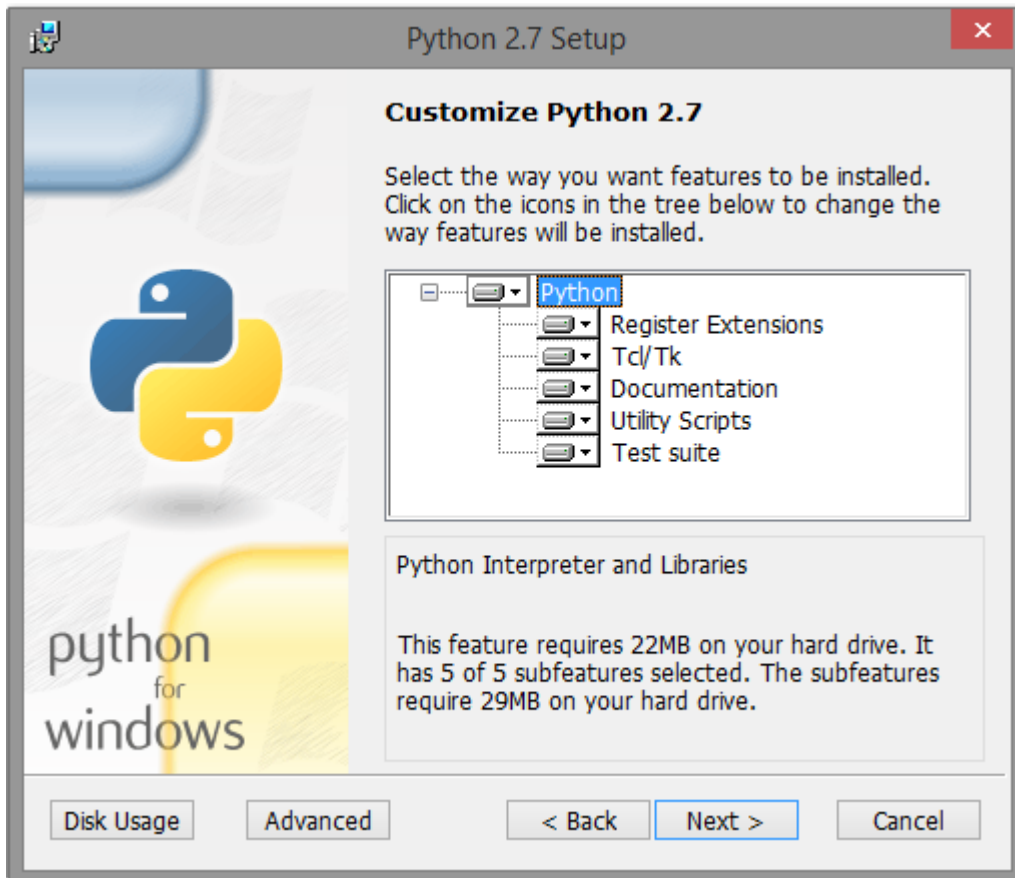

Figure 1-11. Python Customization
8. A dialog as shown in Figure 1-11 appears. Click the Next» button to proceed with the installation.